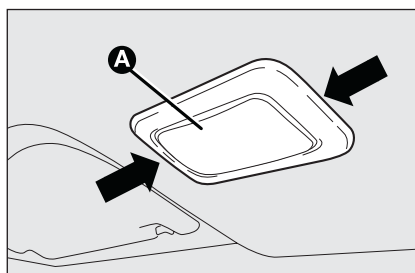

fig. 36
- ☐ remove the ceiling light **A-fig. 36** levering in the points shown by the arrows;